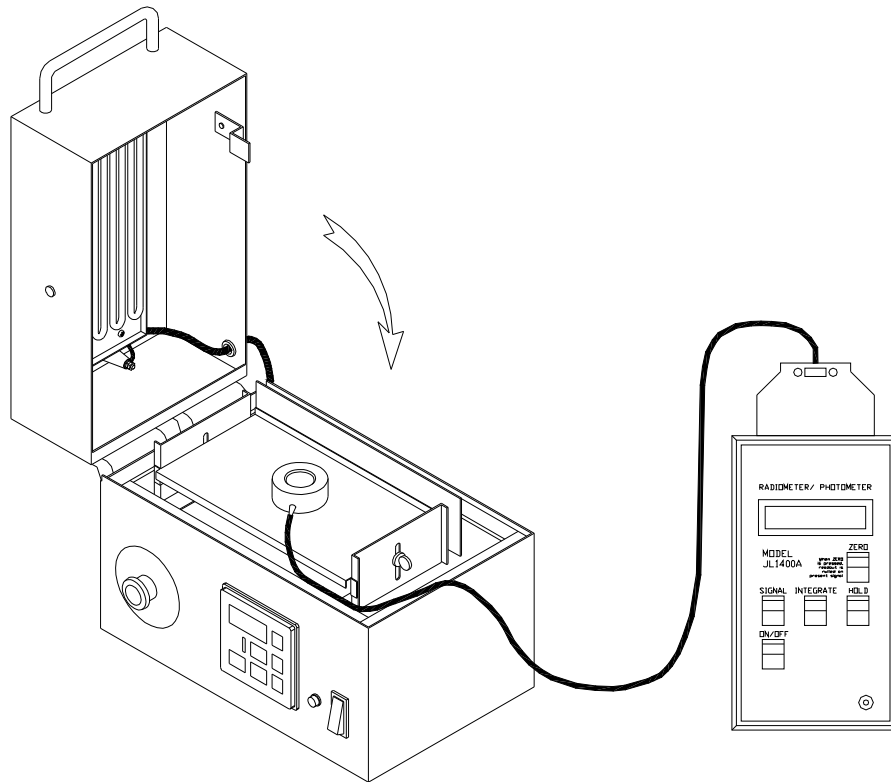

FIG. 5
- 2 Open the Lid and place the UV Detector in the center of the Removable Tray – see Figure 5. The Detector window must face upward.